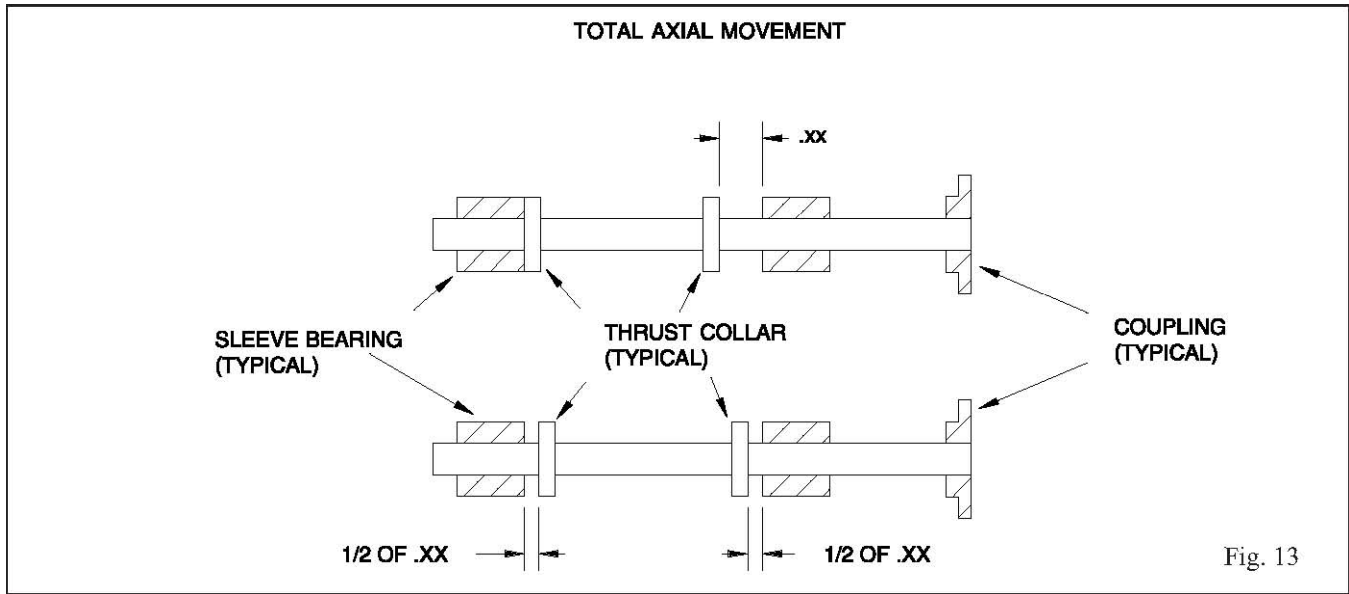

Fig. 13
- 1-Slide the rotor towards the outboard end of the motor as far as it will go and mark the shaft at the motor frame (Fig. 13).